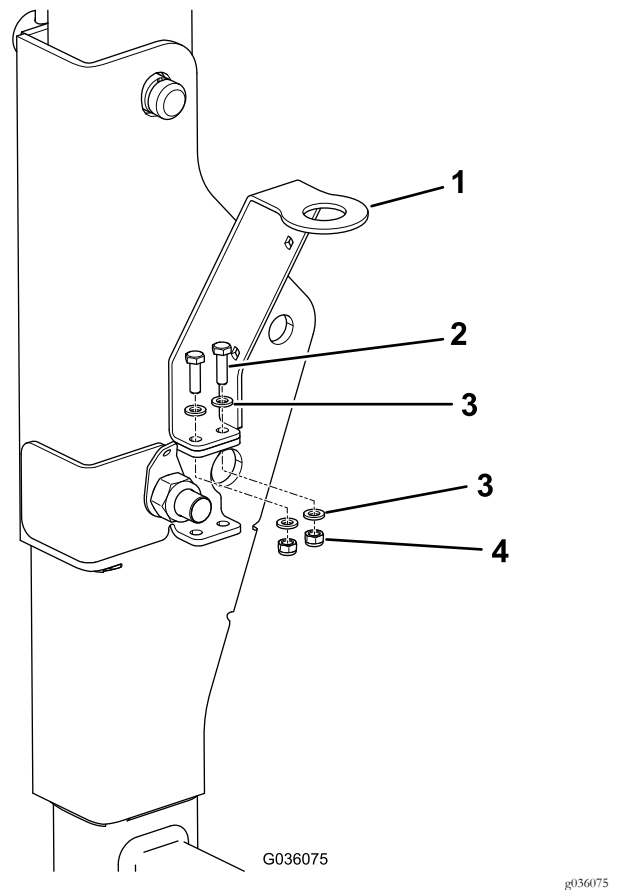

Figure 9
- Align the small holes in the beacon bracket with the upper holes in the ROPS bracket (Figure 9), and secure